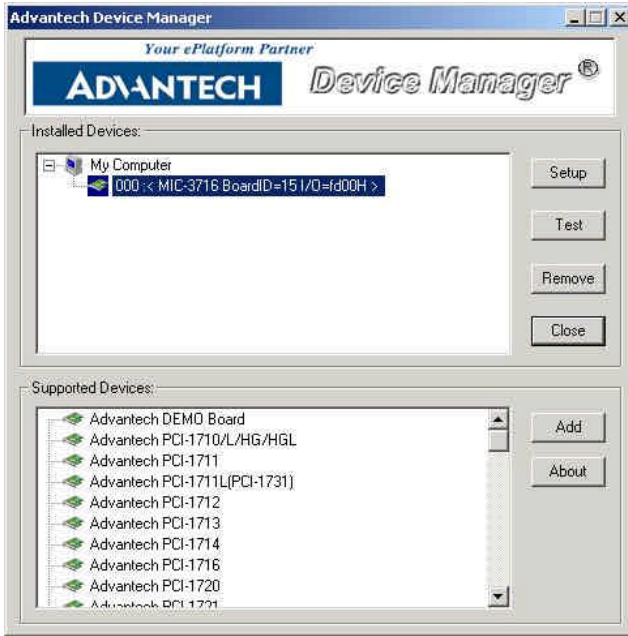

Fig. 2-4: The Device Manager dialog box
Step 3: The *Installed Devices* box will list the device(s) found on your system, such as the one in *Fig. 2-4*.